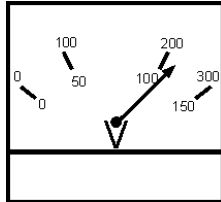
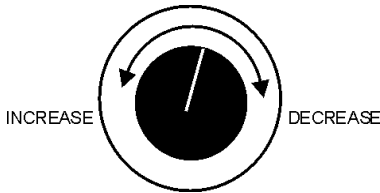

Figure 39. Voltage Meter (Volts)
Figure 40. Voltage Adjust Control Knob
10. The generator's voltage meter (Figure 39) displays the 120 VAC in **VOLTS**. If the voltage is not within the specified frequency tolerance, use the voltage adjustment control knob (Figure 40) to increase or decrease the desired voltage.